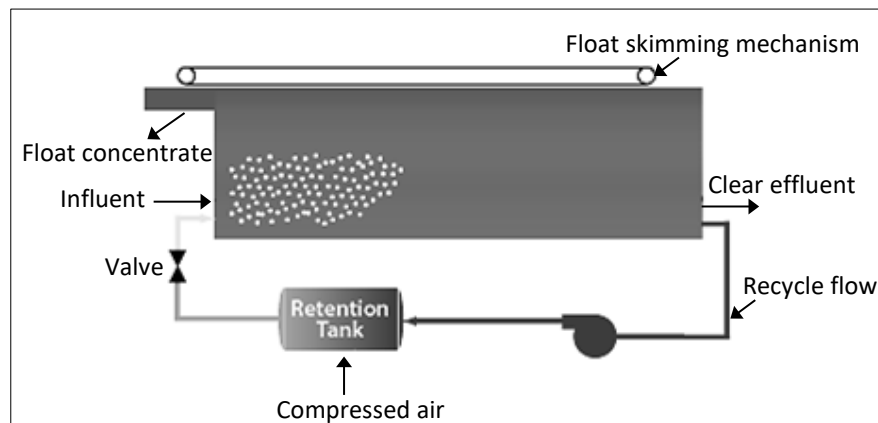

Figure 4-4. Dissolved air flotation.
- ❑ **Dissolved Air Flotation Thickening.** In dissolved air flotation (DAF), pressurized air is injected into the sludge. The bubbles attach themselves to the solid particles and float them to the surface. The solids form a floating blanket, which is skimmed off (Figure 4-4). This method can be very effective with secondary sludge. Solid contents of between 2 and 8% can be achieved. Polymers are added to increase efficiency.